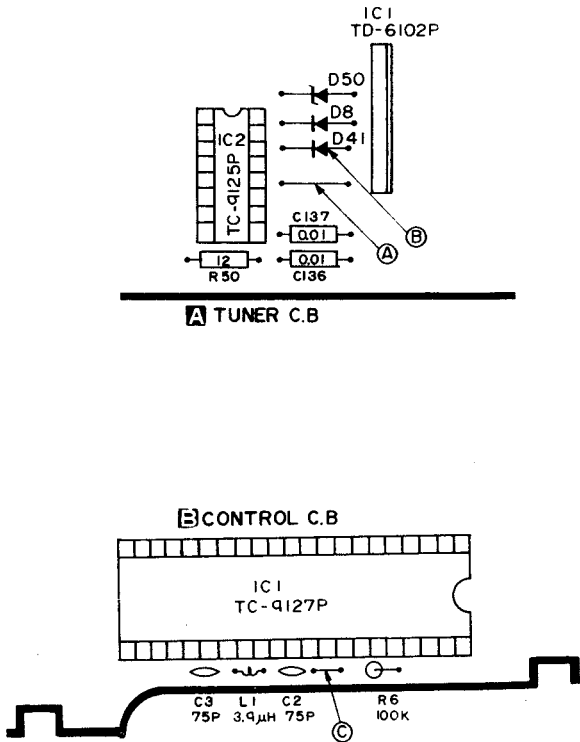

Fig. 17
This set has been designed for forced suppression of the MPX function with an ANT input level of 25 to 35 dB. This forced monaural function is obtained by a bias of 2 to 3 V at pin (16) of MPX IC, $\mu PC-1161$. As shown in Fig. 17, Q_{26} becomes OFF at I_{th} or less, and at point G becomes HIGH level. Voltage division is executed for this by R109, R104, and Q_{21} , and the signal at point E is obtained. This is supplied to pin (16) of $\mu PC-1161$.